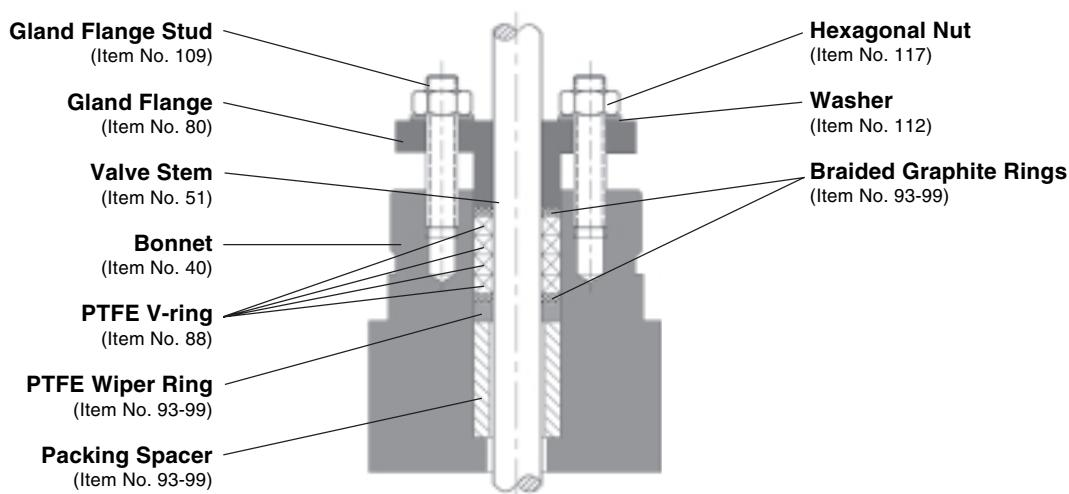

Figure 3: PTFE Ring Standard Bonnet
3. Prior to lapping the plug into the seat ring, assemble the body sub-assembly. Torque the bonnet nuts (114) to the specified values from Table II. Install the stem guide (82), packing (88) and packing follower (83) to support the plug stem when lapping the plug and seat. It is not required to install the bonnet gasket (55) for lapping procedure. Lapping tools are available if needed. The plug and seat can be lapped by replacing the packing with a lapping bushing (See Table V for wrench and bushing part numbers.)
4. Lap the plug into the seat ring (Figure 3) to obtain good seating surfaces on both. Grind the seating surfaces by applying moderate axial pressure on the plug stem. Avoid a full 360 degree rotation. Best results will be achieved by a limited rotation, back and forth, approximately 60 degrees. Do not remove too much metal; stop the lapping after seating surfaces of 0.031-inch (0.8 mm) wide has been obtained in seating of plug. Ensure plug is seated completely. Lapping the seat usually only takes a few minutes, provided the seating surface is free of damage and the seat ring is fully round. After lapping is complete, keep the plug and the seat in the same contact orientation; this ensures better shut-off.
5. After lapping is complete, it is recommended to clean the lapping compound off the trim. Prior to disassembly, 'match mark' the plug (50), bonnet (40) and body (1). After cleaning the lapping compound from the trim, rebuild the valve aligning the match marks of the body, bonnet and plug stem, ensure bonnet gasket (55) is installed.